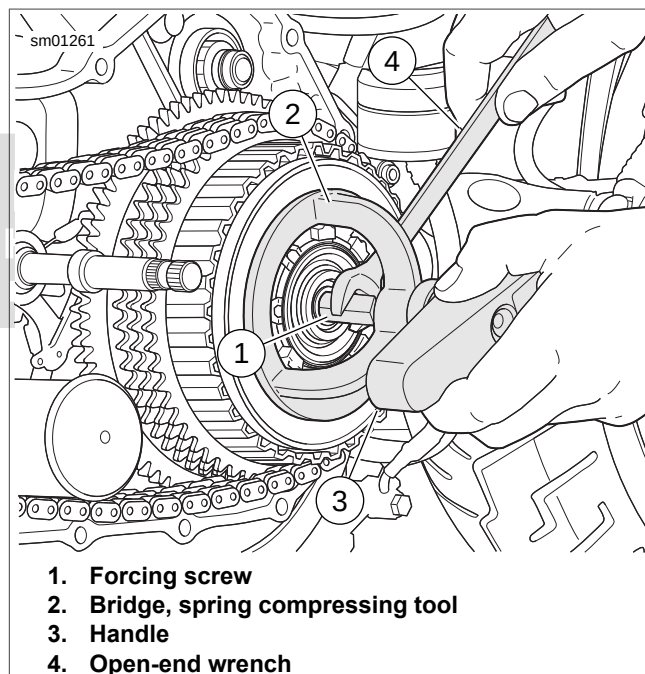

Figure 5-11. Compressing Clutch Diaphragm Spring
- See Figure 5-11. Compress clutch diagram spring.
- Place pressure plate (11) and adjusting screw onto clutch pack (28).
- Assemble bearing (13) and adjusting screw (12) in release plate (15). Secure with **new** retaining ring (14).
- Align the two tabs on perimeter of release plate (15) with the corresponding recesses in pressure plate. Install adjusting screw assembly (12, 13, 14, 15) into pressure plate (11). Secure adjusting screw assembly with **new** retaining ring (16).
- Install diaphragm spring (17) with its concave side facing inboard (toward pressure plate), onto pressure plate assembly. Align square openings of pressure plate and diaphragm spring (17).
- Position spring seat (18) with its flat, larger outer diameter side facing inboard (toward diaphragm spring).
- Install a **new** retaining ring (19) onto convex (outboard) side of diaphragm spring.
- See Figure 5-11. Place an open-end wrench (4) on the clutch spring forcing screw (1) flats to prevent the forcing screw from turning.